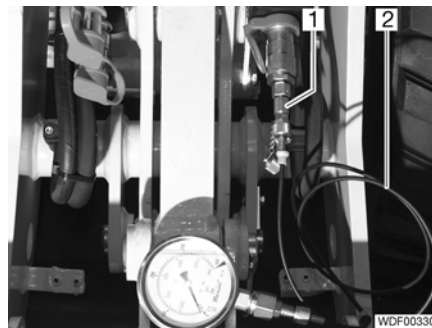

Fig. 8 Test manometer (up to 400 bar)
- Measuring cable (Fig. 8,2)
- Adapter (Fig. 8,1)